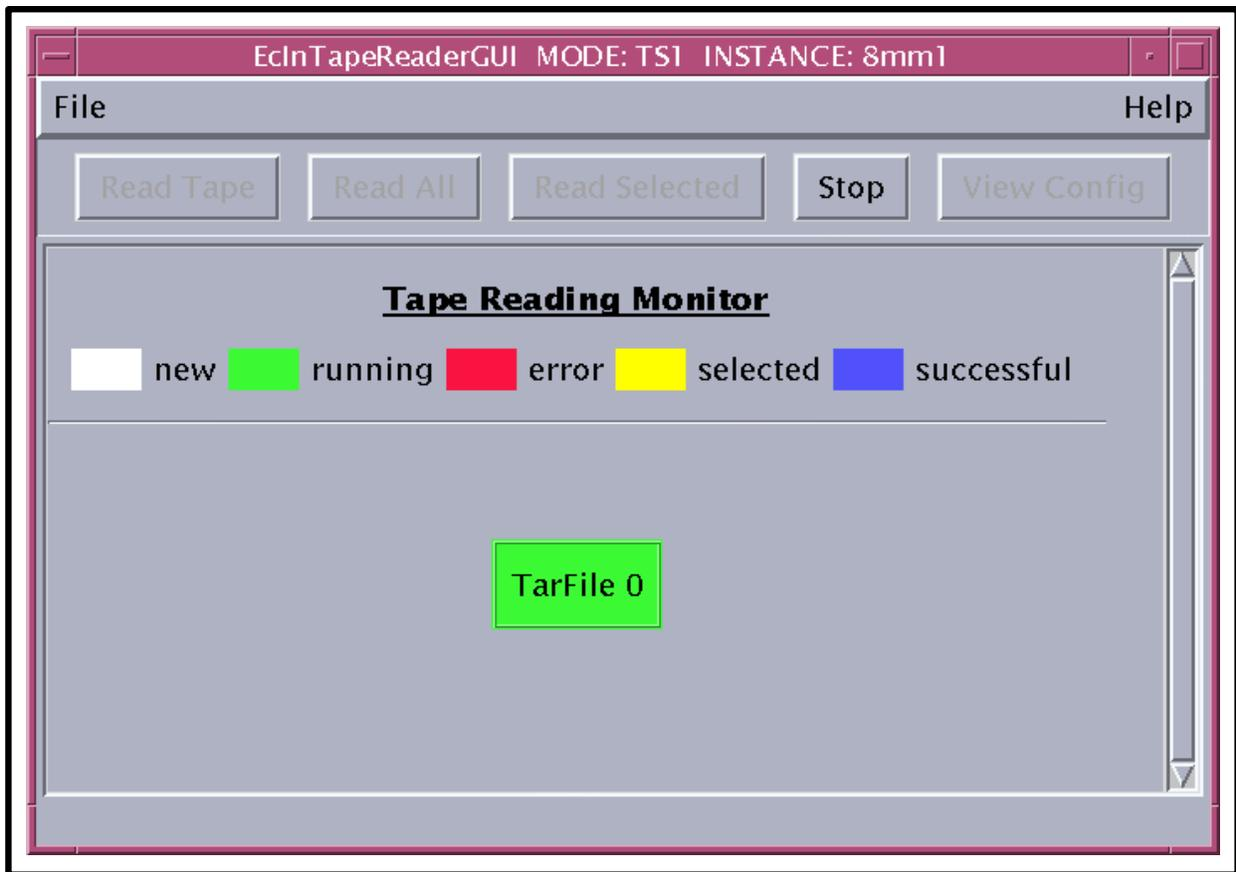

Figure 31. INGEST Media Tape Reader GUI: Monitor Screen
- The **INGEST Media Tape Reader** GUI **Monitor Screen** (Figure 31) is displayed.